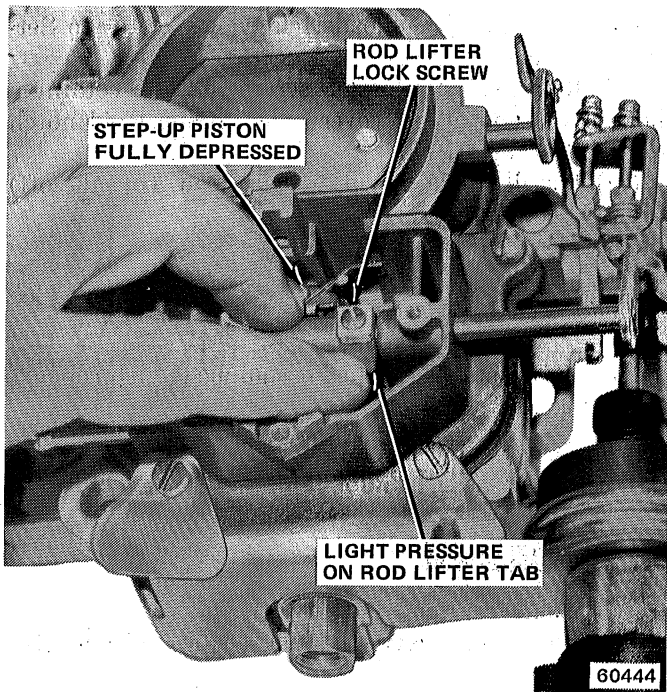

Fig. 1J-109 Vacuum Piston Adjustment
The vacuum piston gap is a critical adjustment (fig. 1J-109). Turning the adjusting screw clockwise richens the air/fuel mixture. Turning the adjusting screw counterclockwise leans the air/fuel mixture. Turn adjusting screw to adjust gap. Refer to Specifications.
- (1) Adjust gap in vacuum piston to specification.
- (2) Back off idle speed adjustment screw until throttle valves are completely closed. Count number of turns and note so that screw can be returned to original position. Turn idle speed adjustment screw until it barely contacts stop, then turn one full turn further.
- (3) Fully depress vacuum piston while holding moderate pressure on rod lifter tab. While in this position, tighten rod lifter lock screw (fig. 1J-109).
- (4) Release piston and rod lifter.
- (5) Adjust accelerator pump as outlined below.
- (6) Return idle speed adjustment screw to its original position.
- (7) Install dust cover.